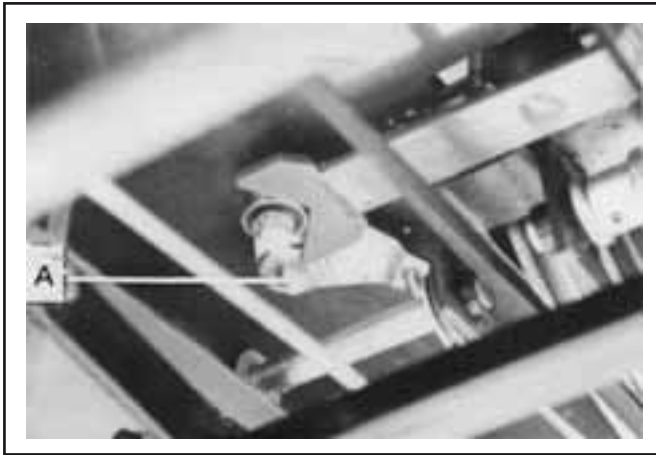

Fig. 22
1. Loosen Locknut (A) *Fig. 22*
3. Re-tighten locknut (A). *Fig. 22*